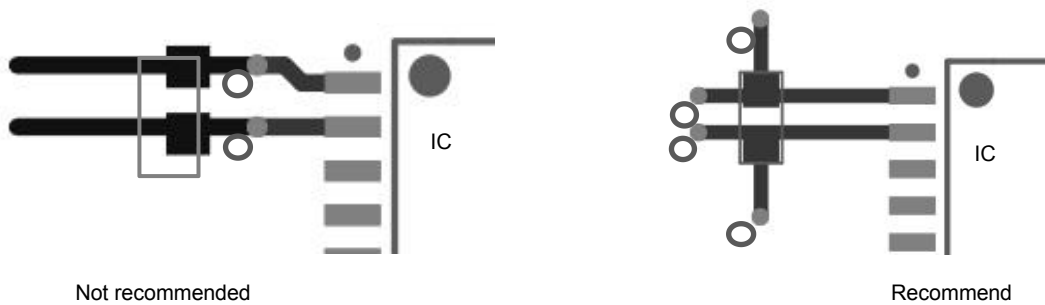

Figure 10-2
3. When it is necessary to place vias in the power supply line and ground wire, the position of the vias should be on the outer side of the capacitor relative to the chip pins, rather than between the capacitor and the chip, as shown in Figure 10-2 to reduce the impact of parasitic inductance in the vias.